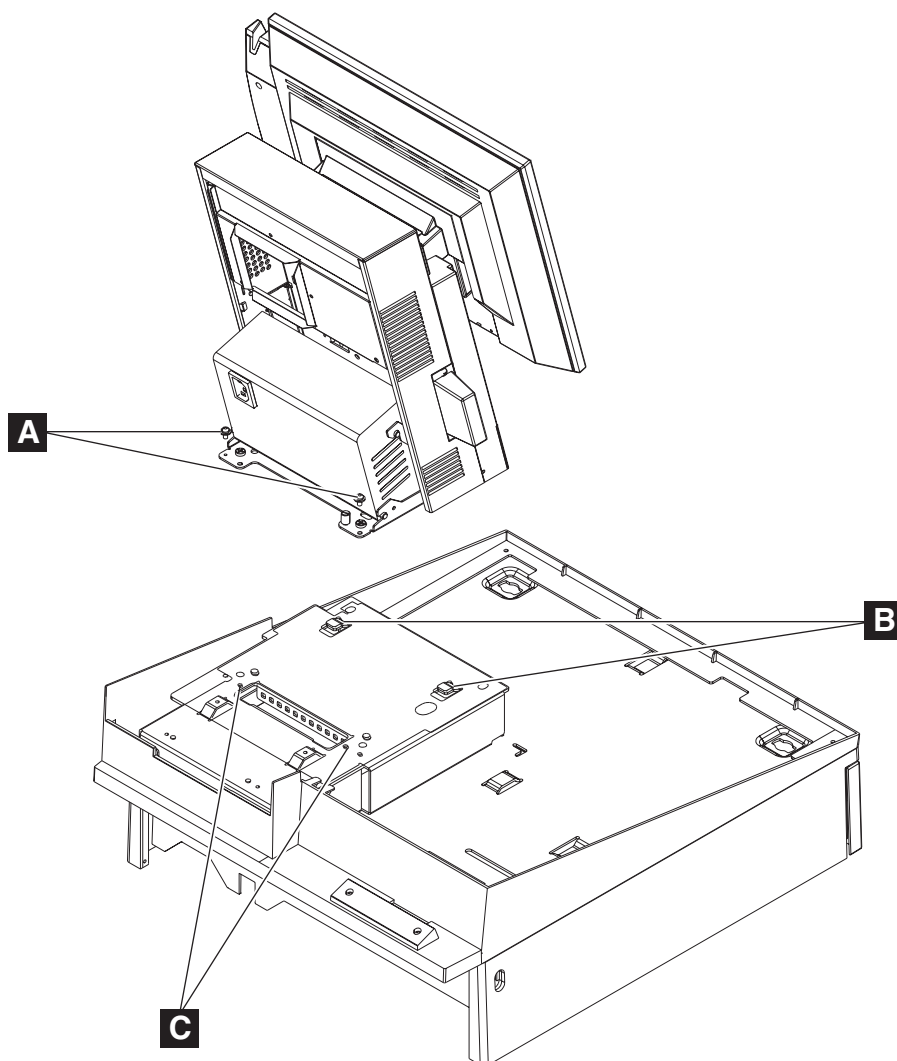

Figure 72. Removing the SurePOS 500 Models 5x3 and 544/564 from the integration tray
7. To remove the SurePOS 500 Models 5x3 and 544/564 from the keyboard integration tray, see Figure 72 for callout locations and perform the following steps:
- b. Loosen the two screws **A**, as shown in Figure 72.